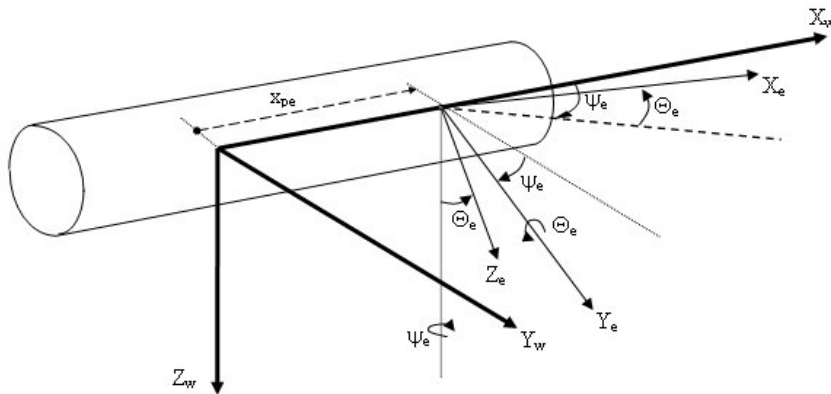

Figure 1 The warhead coordinate system
- ψ_e Rotation of warhead effect around the z-axis, see Figure 1.
- Θ_e Rotation of warhead effect around the rotated y-axis, see Figure 1.